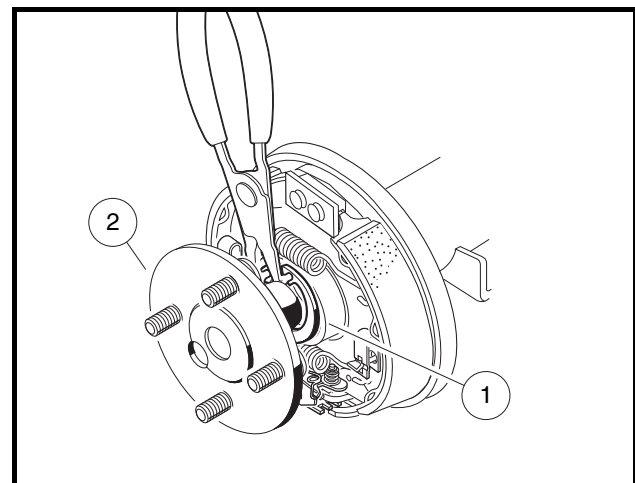

Figure 6-3 Remove Axle Retaining Ring
- 5.1. Use 90° snap ring pliers (CC P/N 1012560) to remove axle retaining ring (1) (**Figure 6-3, Page 6-2**).
- 5.2. Pull the axle shaft (2) from the axle tube (**Figure 6-3, Page 6-2**).
7. Install axle shaft (2) into axle tube and install retaining ring (1) (**Figure 6-3, Page 6-2**). See following **WARNING** and **CAUTION**.